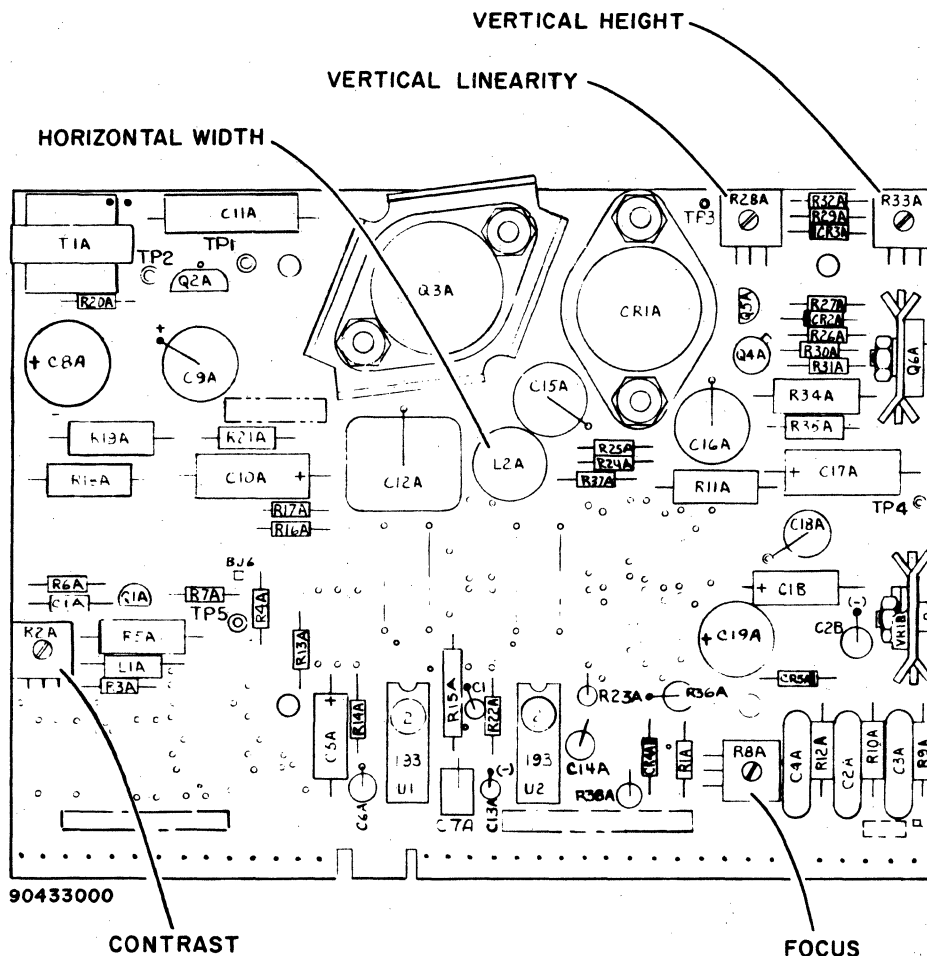

Figure CRT42. Monitor Printed-Circuit Board Adjustments (Video Size Adjustments)
- c) Increase video gain by turning contrast control (figure CRT42) clockwise until checksum characters appear on display.
- 8) Adjust vertical height by turning adjustment screw (figure CRT42) until rectangle of display characters is 5.25 ± 0.1 inches (13.3 cm) in height.
- 9) Adjust horizontal width to 8.0 ± 0.1 inches (20.3 cm) by turning adjustment screw in coil (figure CRT42) using a $3/32$ -inch nonmetallic hex driver.
- 10) Reduce video gain to zero by turning contrast adjustment screw (figure CRT42) fully counterclockwise.
- 14) Check top line, center line, and bottom line of displayed characters for uniformity. If characters are compressed anywhere on screen, turn vertical linearity adjustment screw (figure CRT42) clockwise or counterclockwise until character distortion disappears and all lines are equal in vertical size.
- 15) Adjust focus adjustment screw slot (figure CRT42) while observing characters on screen. Turn focus adjustment screw clockwise until dots (each character dot matrix) elongate toward upper-right corner of display screen. Then turn focus control slowly counterclockwise until elongated dots pull back to form round dots and entire screen is without fuzziness.